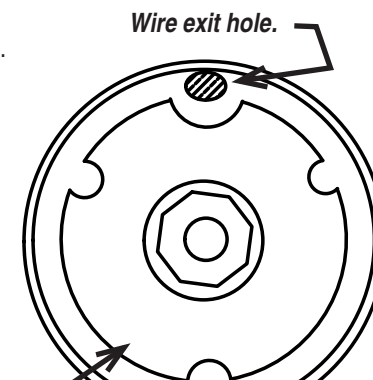

Figure 1
11. Install the second plate into the distributor with the "CW or CCW" facing up. Rotate the plate until the cutout with the "CW or CCW" lines up with the wire exit hole. (See figure 1). This plate will drop down over the dimples on the breaker plate when installed properly.